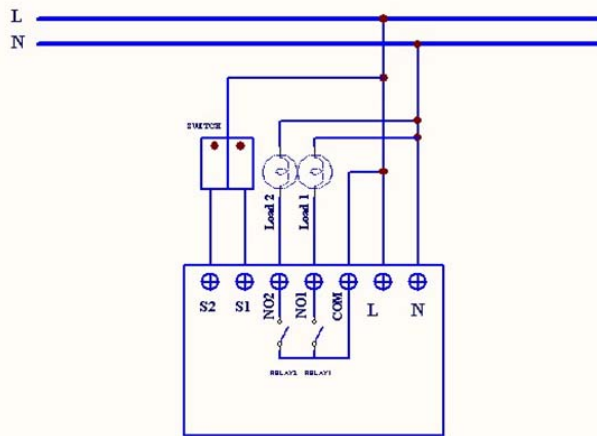

Fig 1. Assembling
2. Connect the wall switch to the TZ06 as Fig1 .